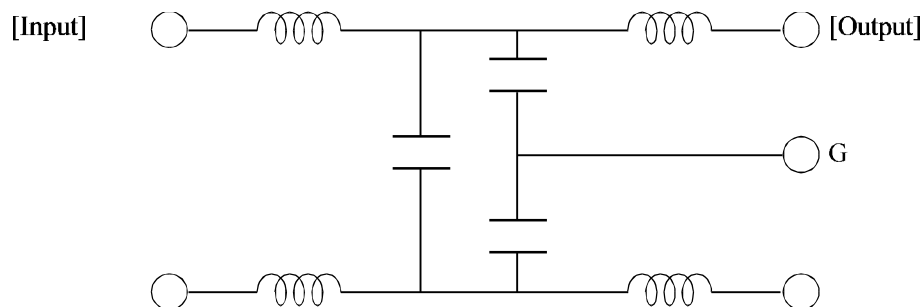

Figure 4.17 AC noise filter (recommended)
- Circuit construction: T-configuration as shown in Figure 4.17 is recommended.